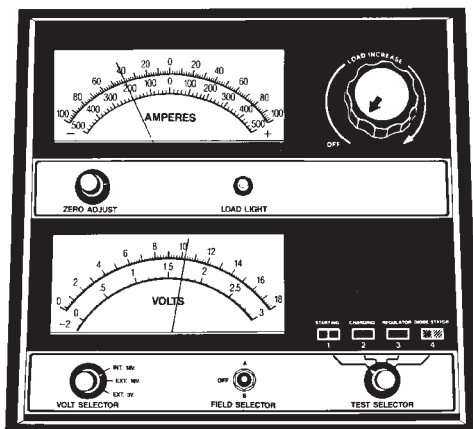

Fig. 8 Starter Draw Tests
(4) Rotate and hold the ignition switch in the START position. Observe the volt-ampere tester (Fig. 8).